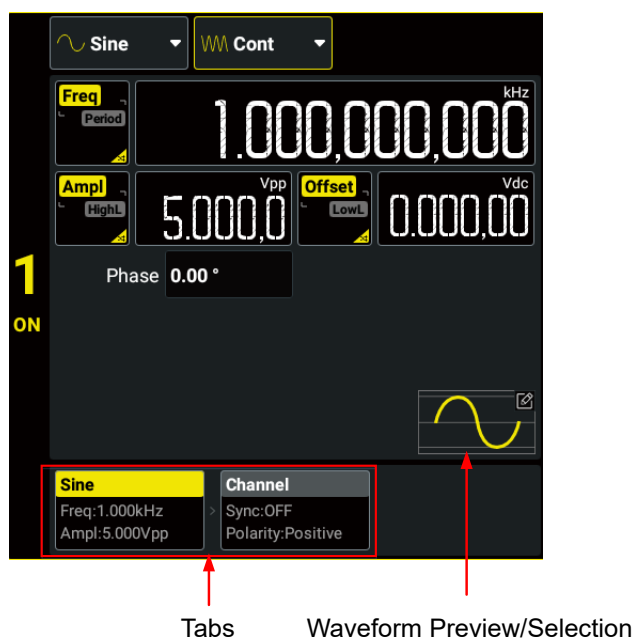

Figure 5.1 Continuous Setting Interface
- In the Continuous Setting Interface (Figure 5.1), click or tap the "Wave Type" drop-down button to select "Sine".
- In the Continuous Setting Interface (Figure 5.1), click or tap the "Waveform Preview/Selection" area and then select **Sine** in the displayed built-in waveform selection menu.
- In the Continuous Setting Interface (*Figure 5.1*), click or tap the "Wave Type" drop-down button to select "Square".
- In the Continuous Setting Interface (*Figure 5.1*), click or tap the "Waveform Preview/Selection" area and then select **Square** in the displayed built-in waveform selection menu.
You can also click or tap the "Channel" tab in Figure 5.1 interface to access the channel setup interface to configure channel output. For details, please refer to Channel Setup.
- In the Continuous Setting Interface (Figure 5.1), click or tap the "Wave Type" drop-down button to select "Ramp".
- In the Continuous Setting Interface (Figure 5.1), click or tap the "Waveform Preview/Selection" area and then select **Ramp** in the displayed built-in waveform selection menu.